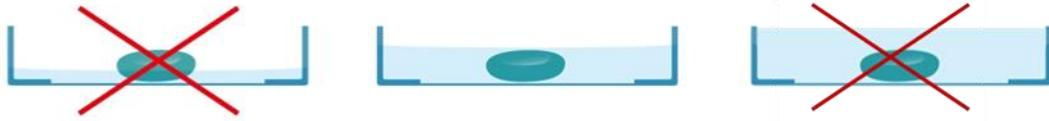

Figure 1: Amount of mounting medium in culture dishes
However, solutions with red phenol showed to be suitable (not recommended) for the image acquisition when a minimum amount of liquid is used to fully cover the bottom of the dish (Figure 1).
- 6) Cover the cells with the suggested amount of mounting medium solution (figure 1);
- 4) Exchange the culture medium if necessary with the suggested amount of pre-warmed living cell imaging medium (figure 1).
- 1) Fill the dish with the recommended amount of mounting medium (Figure 1);